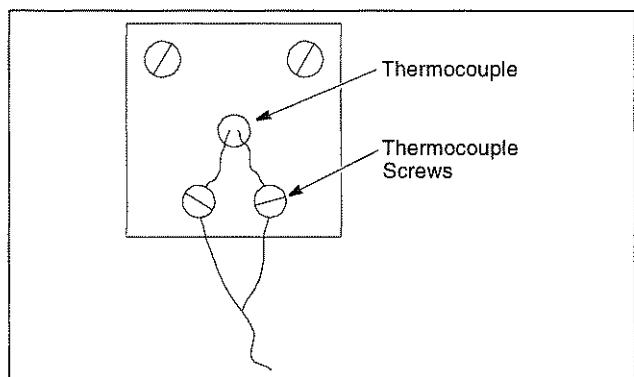

Figure 1. Thermocouple
5. Check that the thermocouple is securely mounted and undamaged. Check the thermocouple wiring connections. Refer to Figure 1. Red is always negative.